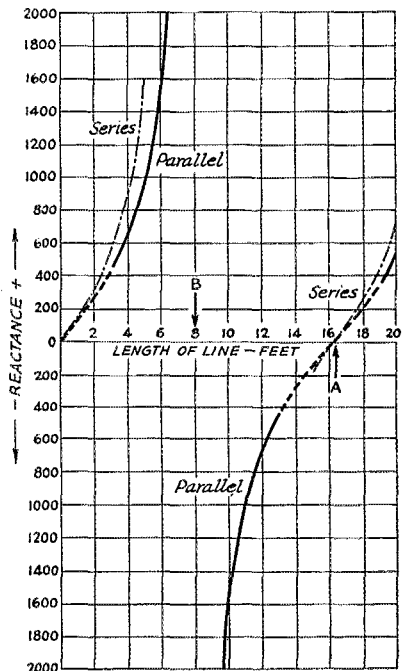

Fig. 5
to the shorting bar. The resulting curves should resemble those of Fig. 5, taken by this method. The parallel and series curves do not quite coincide, for the reasons just mentioned. The solid portions of the parallel curves represent regions in which measurements were possible, while the dashed parts are interpolated. Assuming that the parallel curves are more nearly correct than the series curves, the latter are useful for indicating the *shape* of the parallel curve in the regions where measurements were not possible with parallel tuning. The series curves could be made to coincide with the parallel curves by assuming a small additional capacity acting in parallel with the tuning condenser, an assumption which is justified by the fact that stray and distributed capacities do exist. This additional capacity would have to be of the order of only 1 or 2 micromicrofarads to bring the curves of Fig. 5 together.
As shown by the curves, the reactance of a short-circuited line is inductive and very low when the line length is small (in terms of wavelength). As the line length is increased the reactance increases until the length is a quarter wavelength (indicated at B in Fig. 5) when it is infinite. At this point the line may be connected directly across a parallel-tuned circuit without affecting its resonant frequency. Series tuning cannot be used in the quarter-wavelength region because it is impossible, with practicable components, to compensate for the large reactance introduced in series with the tuned circuit. As the line length increases beyond a quarter wavelength the reactance becomes capacitive — i.e., the line acts like a condenser — starting at a very high value of reactance and decreasing to zero when the line length reaches a half wavelength. At this point (A in Fig. 5) the line acts like a short-circuit, viewed from the input terminals, hence parallel tuning cannot be used. With series tuning, however, the resonant frequency of the tuned circuit itself will not be affected by connecting the line in series. Beyond a half wavelength the line becomes inductive again, and if the measurements could be continued it would be found that the behavior on succeeding quarter wavelengths is the same as on the first two quarter wavelengths.
Since a quarter-wave short-circuited line has infinite reactance at its input terminals, such a line can be connected across any circuit without affecting its tuning. By considering the line represented in Fig. 5 as a short-circuited quarter-wave line in series with an open-circuited line, the same curves also indicate the behavior of an open-circuited line. Then any length of line greater than $\frac{1}{4}$ wavelength is equivalent to an open-circuited line $\frac{1}{4}$ wavelength shorter than the actual length. For example, if the short-circuited line is 10 feet long, it is equivalent to an open-circuited line having a length equal to 10 feet minus $\frac{1}{4}$ wavelength, so far as input re-
When a high-capacity, high-voltage condenser is needed for coupling from the plate of an audio-amplifier tube to its load, it is quite feasible to use an electrolytic condenser of suitable capacity and voltage rating as in Fig. 5-A, provided that
Fig. 5 — Audio circuits using electrolytic condensers. (A) Coupling audio tube to resistance load. (B) "Woofer-tweeter" cross-over circuit. In this instance, R₁ should be 100,000 ohms, R₂ 10,000 ohms and condensers labeled C are 50-volt electrolytics.